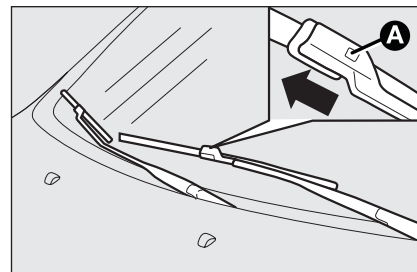

fig. 12
- ☐ press tab **A-fig. 12** of the coupling spring and remove the blade to be replaced from the arm;